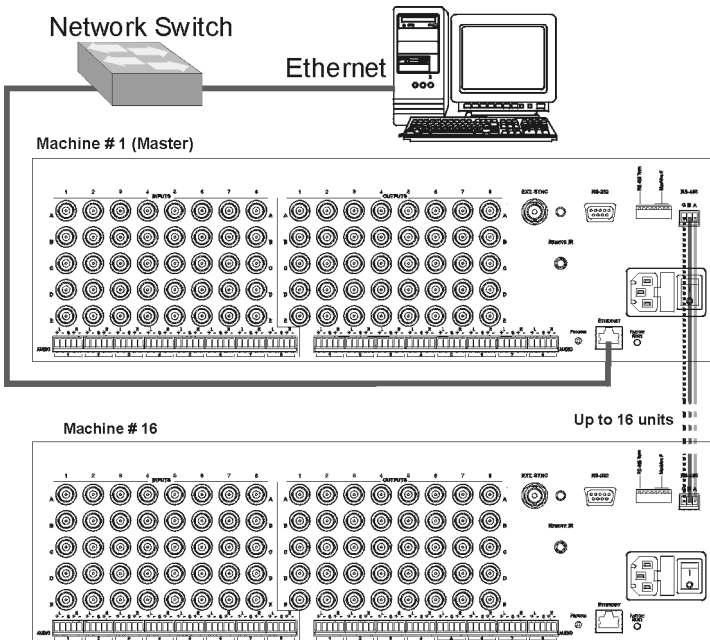

Figure 22: Controlling the VP-885 via Ethernet
- via a network switch (as shown in Figure 22) using a straight-through cable